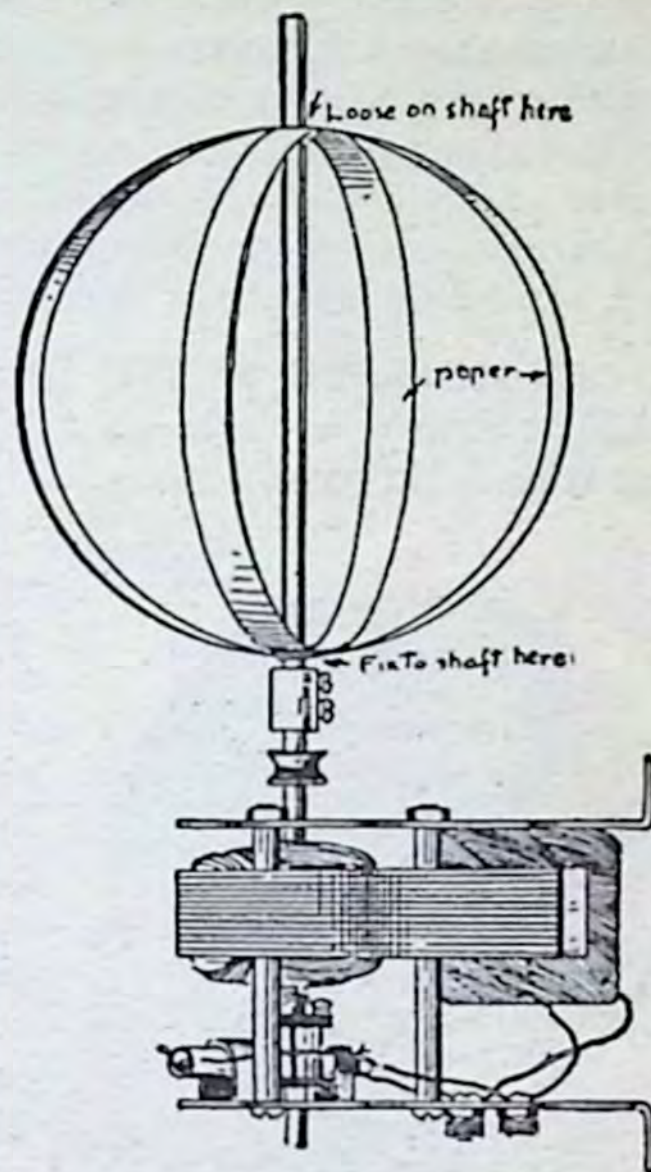

Fig. 31
(37) **WHY THE POLES OF THE EARTH ARE FLAT:** First connect the extension shaft to the shaft of your motor by means of a coupling. Next make two hoops 3 inches in diameter of cardboard that is just stiff enough to hold the shape. Glue the hoops together at the bottom only and at right angles to each other. Make a  $\frac{1}{4}$ -inch hole through them at the top where they cross and a hole just large enough at the bottom where they cross so that when you push the hoops down on the shafting they will revolve with it, as shown in Fig. 31.